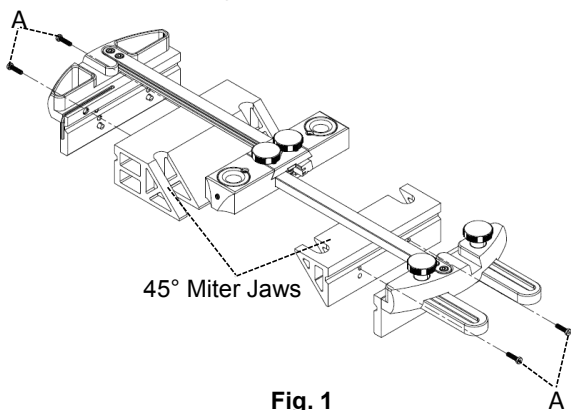

Fig. 1
As shown in Fig. 1, remove the Screws (A) at the left outrigger and right outrigger, replace the two orange V-Jaws (not shown in below figure) with the 45° Miter Jaws, then re-install the Screws (A) and tighten them.